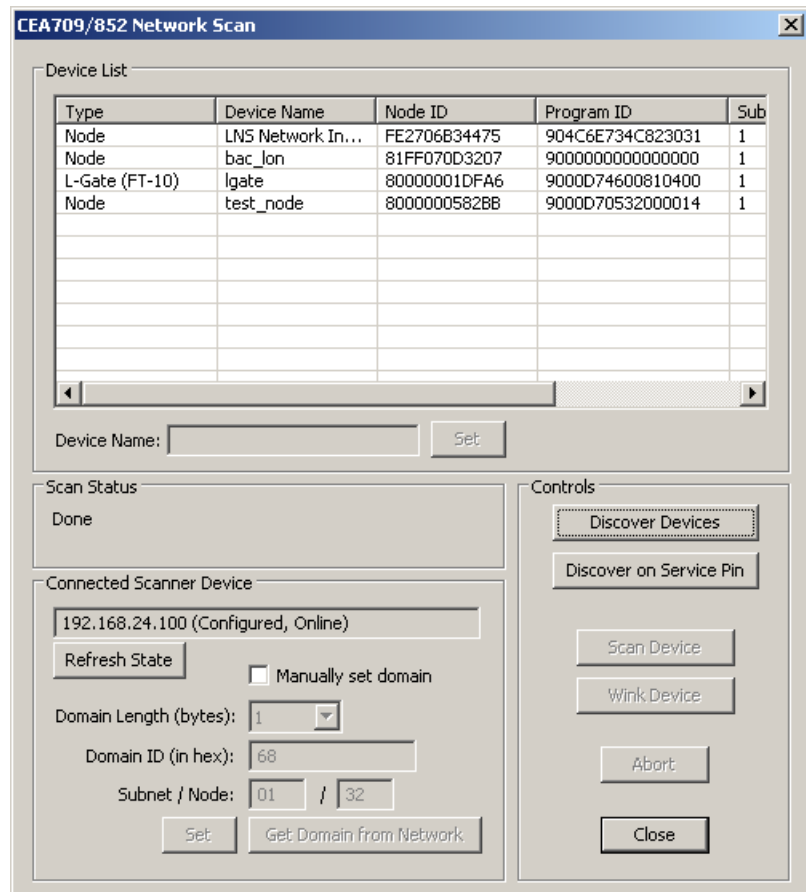

Figure 90: CEA-709 network scan dialog.
3. Right-click on that folder and select **Scan CEA709/852 Network...**. This opens the CEA709/852 Network Scan dialog as shown in Figure 90.